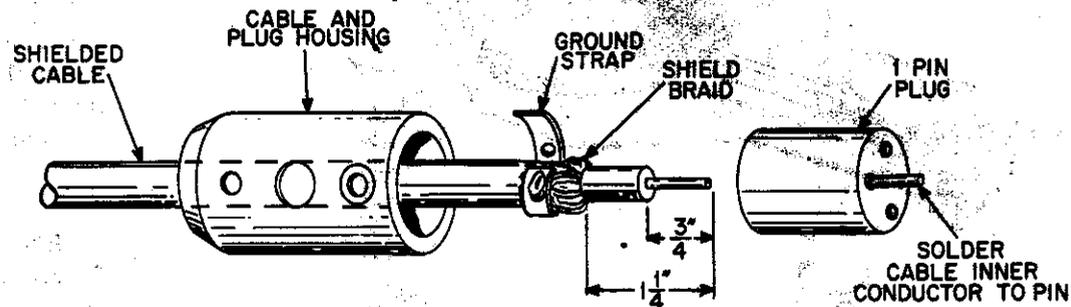

FIGURE 16B
- (✓) Place the cable and plug housing on the other end of the cable. Remove 1¼ inch of the outer insulation from the cable. Unravel the braided shielding. Wrap the unraveled shielding around the end of the cable's outer insulation and coat it with solder. Coat the ground strap with solder for about ½ inch from one end. Wrap this end of the ground strap once around the solder coated shielding. Solder the ground strap to the shielding. Do not apply too much heat or the insulation around the inner conductor will melt. See Figure 16B.